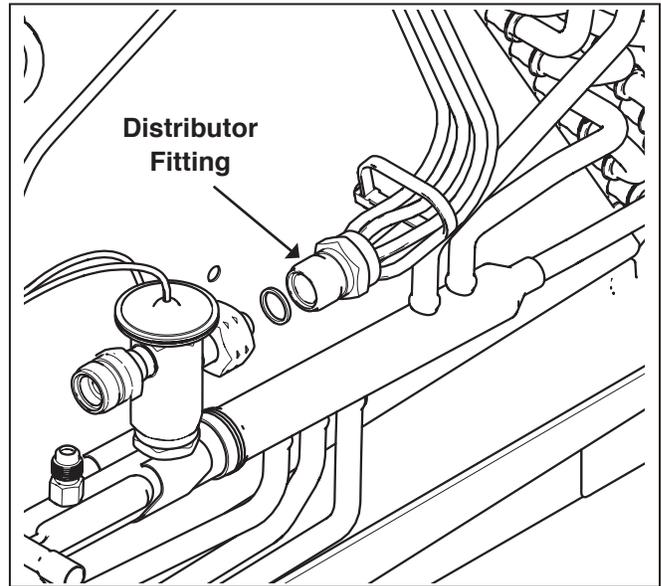
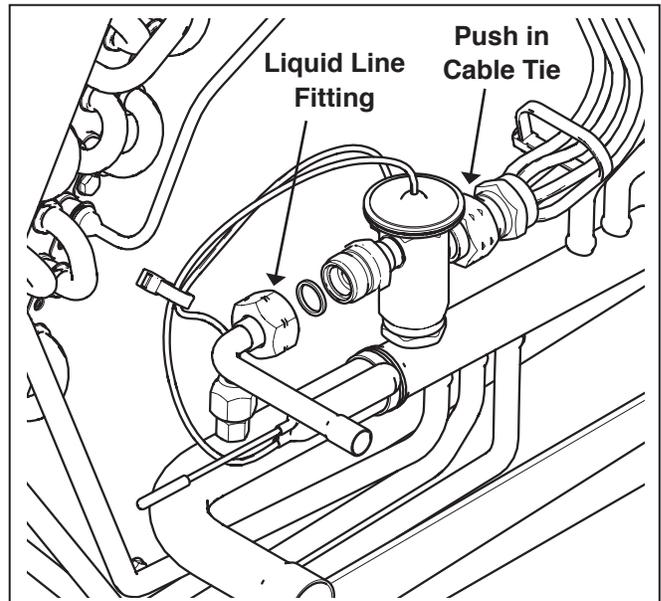

Figure 2
Figure 3
5. DO NOT oil threads. To install the Coil TXV, install one O-ring over the Distributor Fitting (Figure 2). Install the other O-ring over the Liquid Line Fitting (Figure 3) and connect the adapters by hand to ensure proper mating of threads. Tighten until bodies “bottom” or a definite resistance is felt. The valve will only fit in one direction of flow. Use a back-up wrench and tighten an additional 1/4 turn. Wrap supplied push-in cable tie around TXV then insert cable tie barb into coil housing hole (Figure 3 or 5).